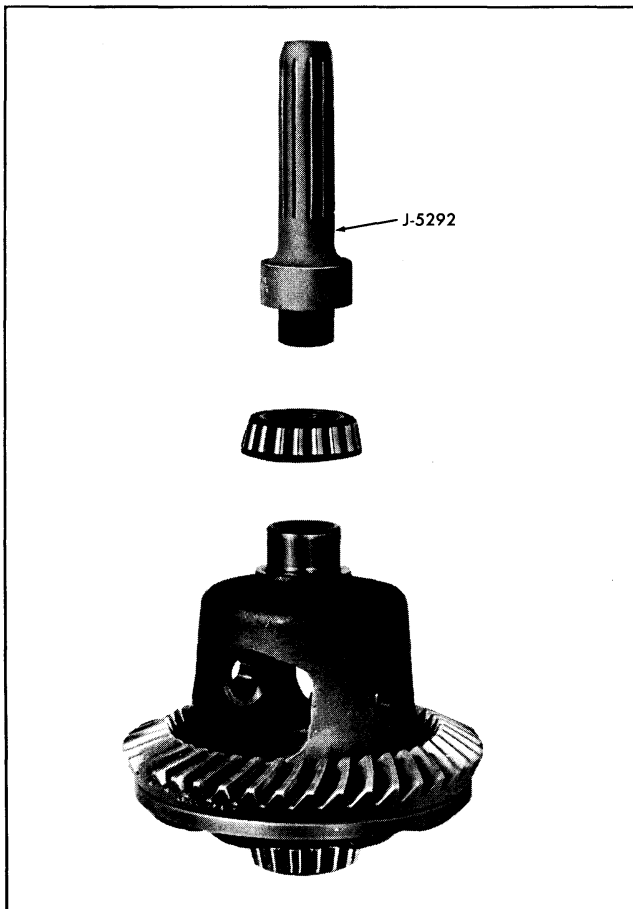

Fig. 4-7 Installing Differential Side Bearing
4. If side bearings were removed, lubricate the bearings and install on case hubs as shown in Fig. 4-7 using tool J-5292.
11. Compress the preload springs as shown in Fig. 4-7 and drive the preload retainer and springs between the side gears.